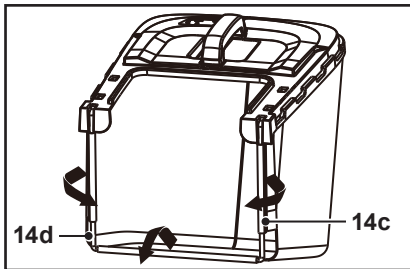
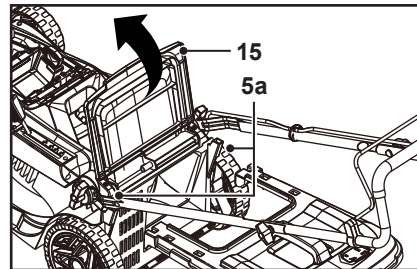

Fig. 4
Fig. 5
1. Clip the three rubber clips (14c) to the supporting rod (14d) of the grass collector (14) (Fig. 4).
2. The grass collector (14) is ready for use.
3. Open the deflector guard (15) and hold it in position (Fig. 5).
4. Pick up the grass collector (14) by its carry handle (14a).
6. Carefully release the deflector guard (15) afterwards.